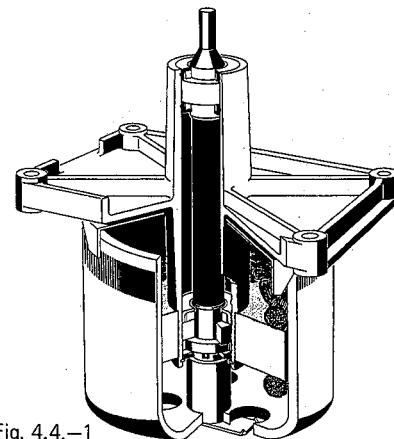

Fig. 4.4.-1
#### 4.4. Capstan Motor (fig. 4.4.-1)
- Use special angled pliers to pull shaft lock A towards one side (fig. 4.4.-1). Proceed with caution, because the shaft lock is under high spring tension and will tend to fly off with force. Remove rotor by pulling it off the shaft.